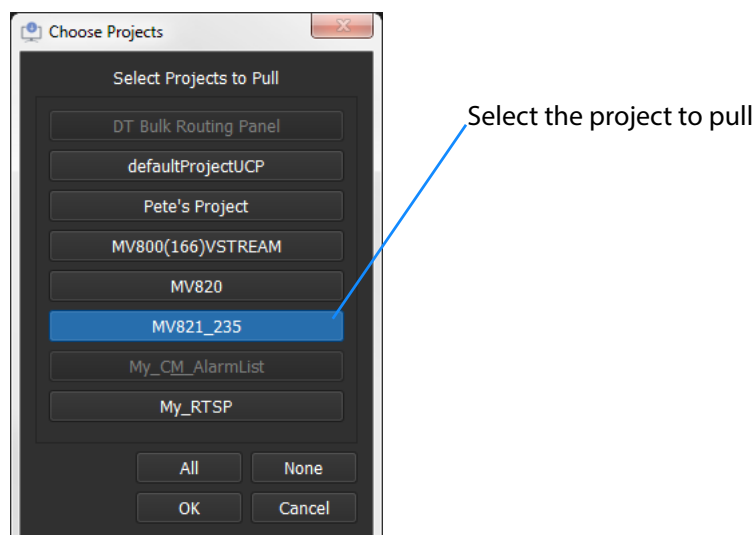

Fig. 8-26: Choose Projects Dialog
- 4 Select the project in the **Choose Projects** dialog (see Figure 8-26) and click **OK**.